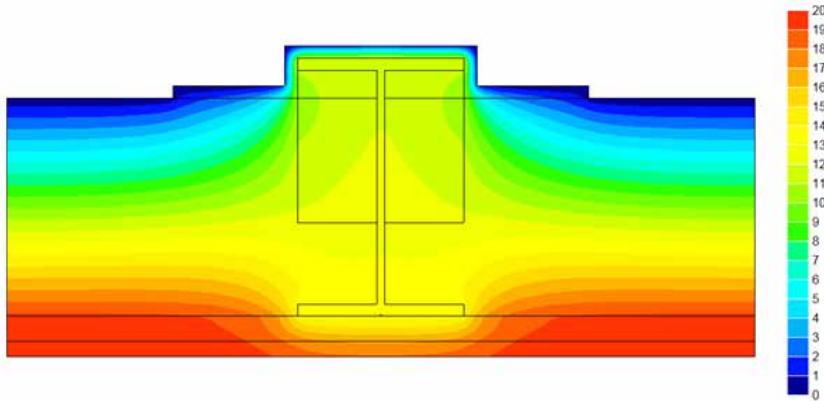

Figure 6: Calculated temperatures with 10mm added Wraptherm
- Roof test B Fig.6: 20mm Wraptherm on outside of steel